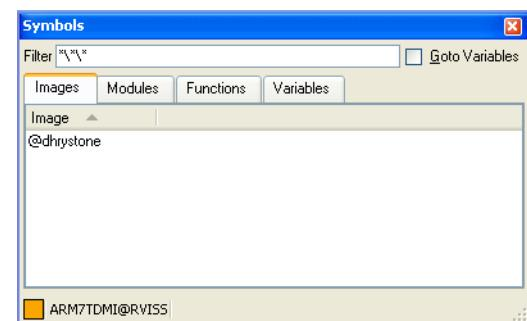

Figure 13-12 Symbols view
1. Select **Symbols** from the **View** menu to display the Symbols view. Figure 13-12 shows an example. If you have loaded multiple images to the target, then all the images are listed.
1. Select **Symbols** from the **View** menu to display the Symbols view. Figure 13-12 on page 13-19 shows an example. If you have loaded multiple images to the target, then all the images are listed.